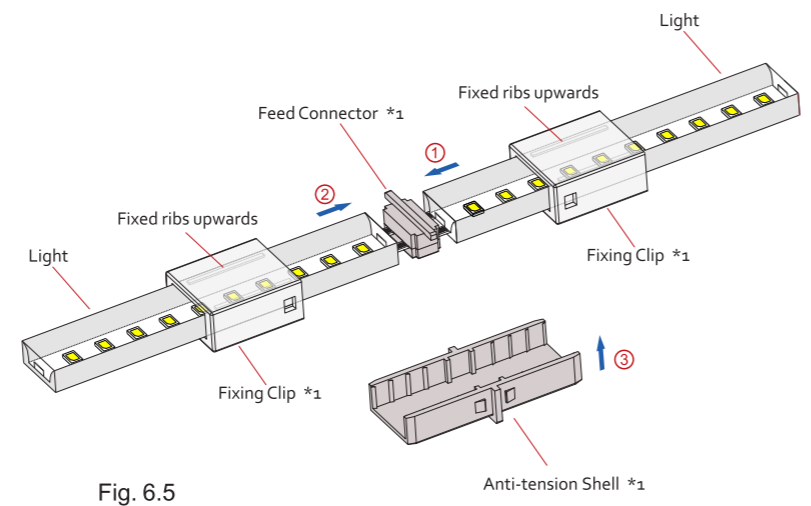

Fig. 6.5
- Fig. 6.5 — Pls doing the assembly according to ① ② ③ ④ ⑤ ⑥ ⑦ steps, and make sure the fixing clip's two fixed ribs are upwards.